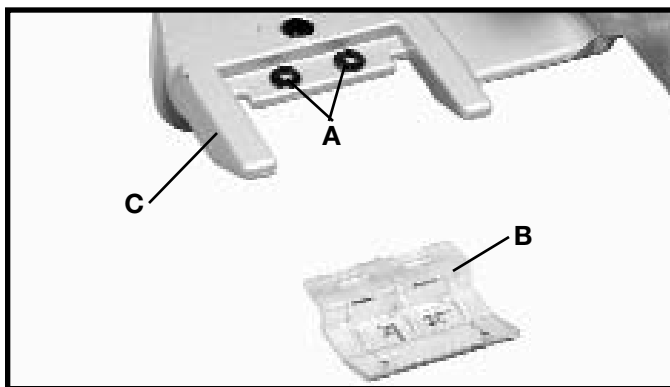

Fig. 30
1. Remove two screws and flat washers (A) Fig. 30, and assemble the cursor (B) to the Unifence body (C). Replace the two screws and flat washers (A).